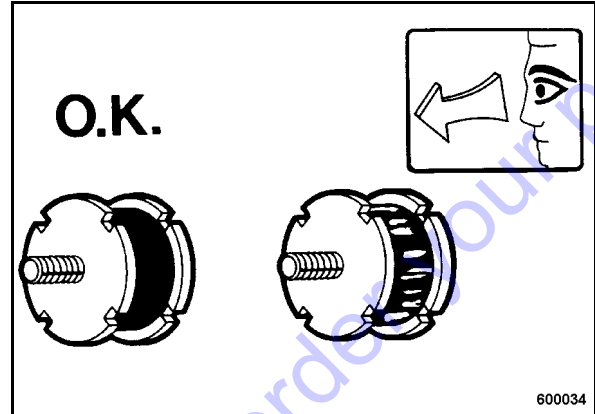

Fig. 74
- Check all rubber buffers (Fig. 74) for tight fit, cracks and damage and replace immediately if damaged.